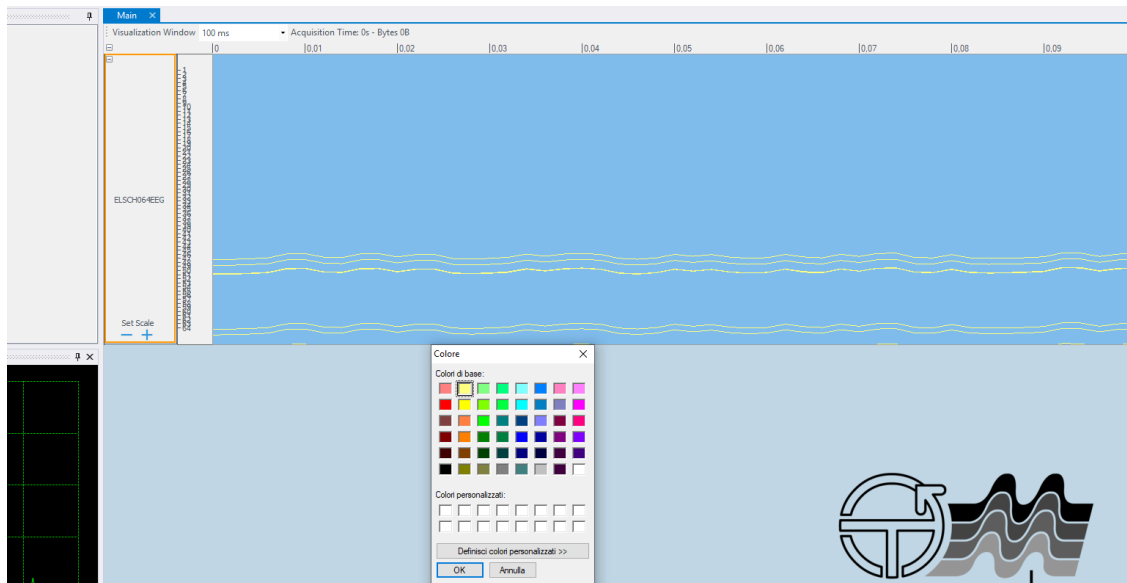

Fig. 8.24: Set color option, it is possible to change the signals color, for example in yellow as shown in this window.
- Set color: allows you to change the color of the displayed signals, see figure 8.24.